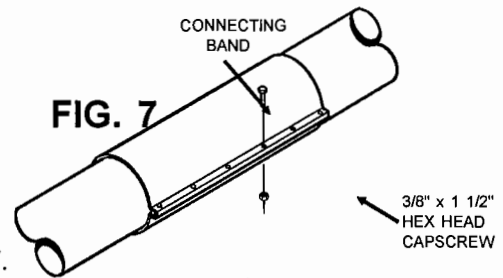

FIG. 7
Slide head section and middle section of auger tubes together. Tighten auger tube connecting band using eight 3/8" x 1 1/2" long (grade 5) hex head capscrews and nylon locknuts. Be sure auger tubes are tight together. About half of the band should be on each tube section. See Fig. 7.
- Step 3. Slide the auger housing sections together so the tube ends are tight against each other. Position the connecting band with half of the band on each auger housing section. Tighten the connecting band down by using eight 3/8" x 1 1/2" long (grade 5) hex head capscrews and nylon locknuts. (See Fig. 7.)